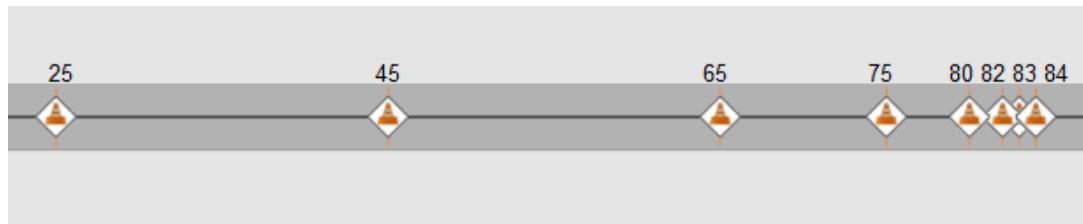

Figure 3.18: Brake test pylon placement
- Place the first set of pylons in the center of the road, 25 m away from Link start. Define 3.5 m as the width and place seven more pylons as shown in Figure 3.18.